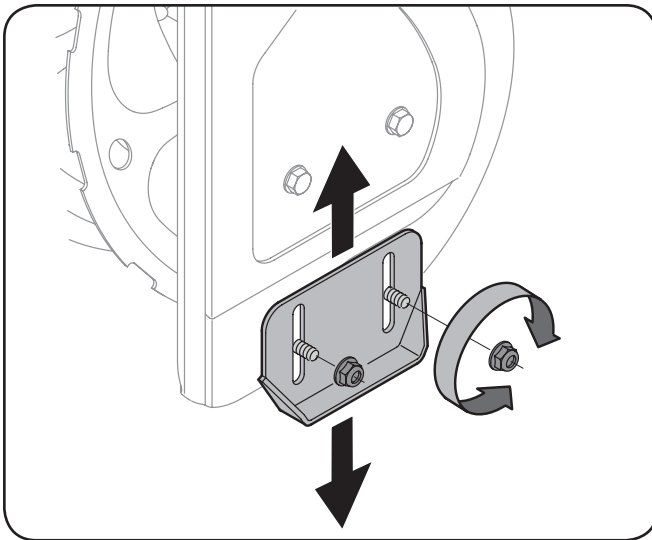

Figure 3-6
1. Loosen the four hex nuts (two on each side) and carriage bolts. Move skid shoes to desired position. See Figure 3-6.